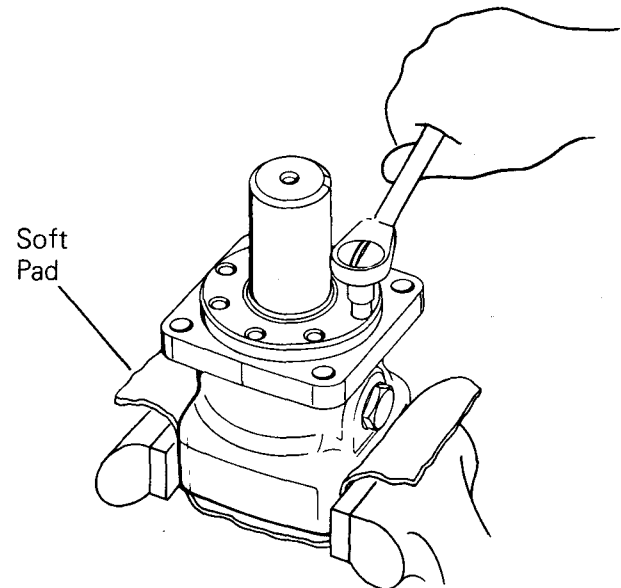

Figure 7
- 20 Place bearing housing in vise, as shown in Figure 7. Loosen 8 cap screws (5/16") in retainer.
- 8 Lubricate threads of 8 cap screws with a light film of oil. Install and finger tighten screws. Place unit in a vise, as shown in Figure 7. Tighten cap screws to 192 inch pounds of torque--in the sequence shown in Figure 13.